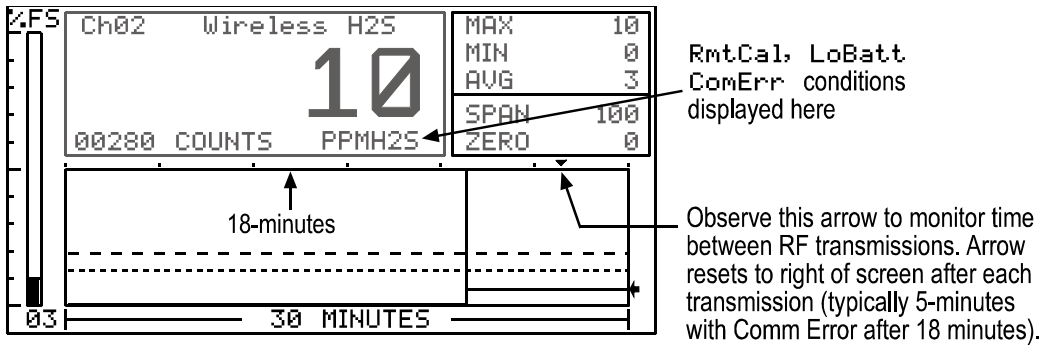

Figure 7.4
- **Communications Error** – Each channel's 30-minute trend screens (Figure 7.4) are very useful for diagnosing wireless problems since it indicates amount of time